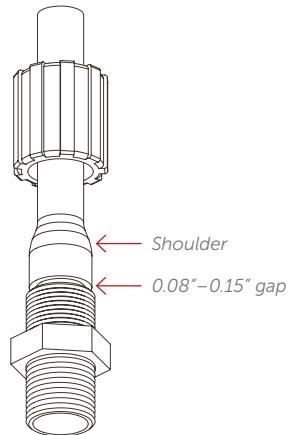

Figure 4.
1. Push the flared tubing end onto the Flaretek fitting body until the end of the fitting body contacts the flare shoulder of the tube (see Figure 4). The maximum gap between the tube end and fitting shoulder should be 2.03–3.81 mm (0.08–0.15”).